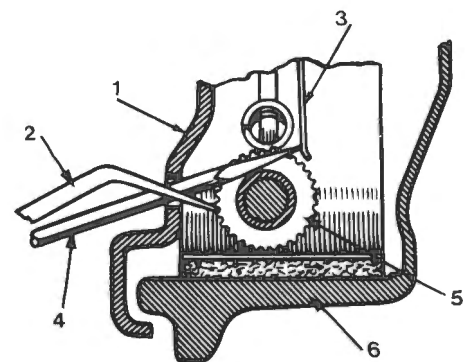

Fig. R-24
- (b) Insert a tool to lift the adjusting lever away from the star wheel. Fig. R-24.